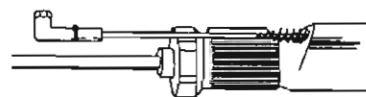

Figure 2-27. Aspirator control cleaning.
(8) Use the aspirator cleaning brush (fig 2-27) to remove any debris, flush it again with water and reinstall the aspiration control lever.
(9) Dry the handpiece with a lint-free cloth or towel. Do not lubricate handpieces at this point. Follow sterilization procedures.